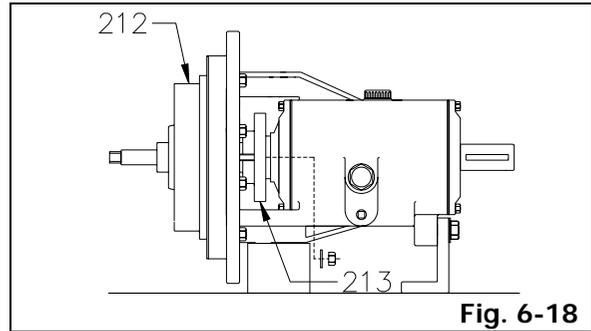
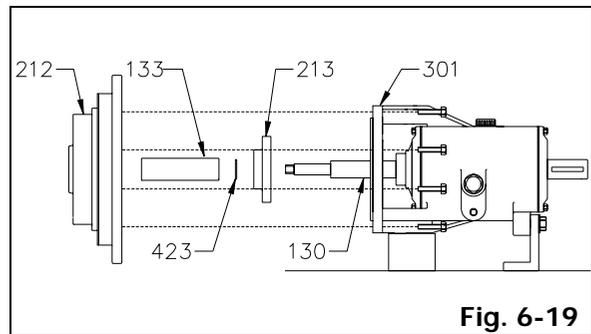

Fig. 6-18
Fig. 6-19
1. Remove two (2) gland nuts.
2. Remove gland (213) from stuffing box cover (212) (Fig. 6-18).
3. Remove eight (8) stuffing box cover bolts and lift off stuffing box cover (212) from bearing bracket (301).
4. Remove shaft sleeve (133), shaft sleeve "O" ring (423) and gland (213) from shaft (130) (Fig. 6-19).